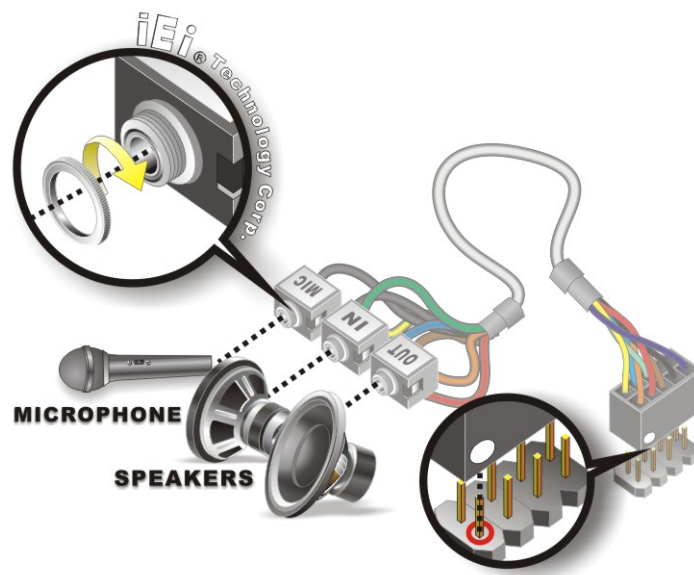

Figure 5-17: Audio Kit Cable Connection
Step 2: Align pin 1. Align pin 1 on the on-board connector with pin 1 on the audio kit connector. Pin 1 on the audio kit connector is indicated with a white dot. See **Figure 5-17**.